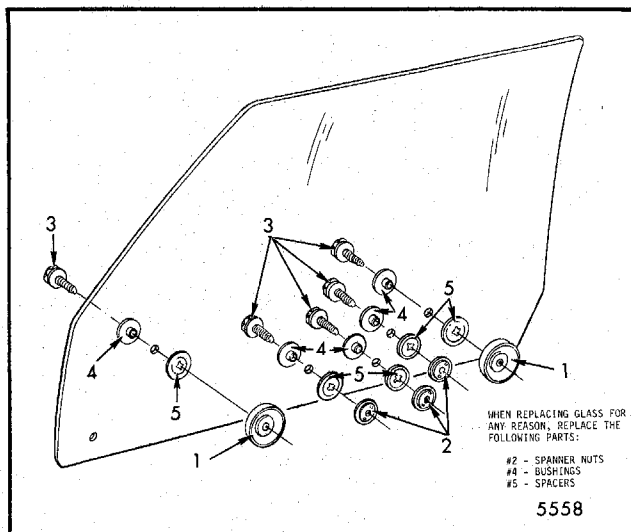
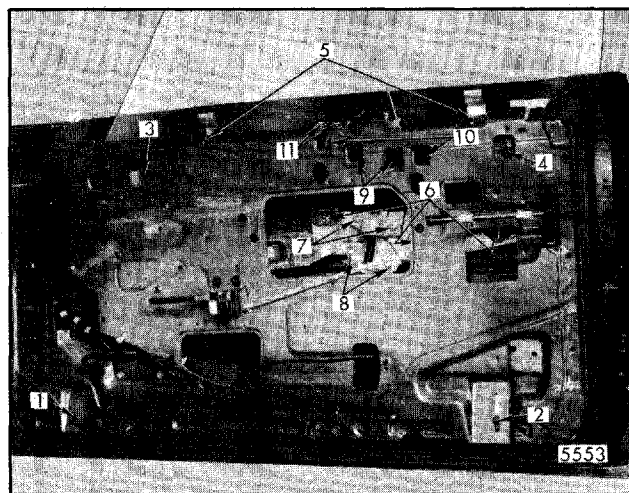
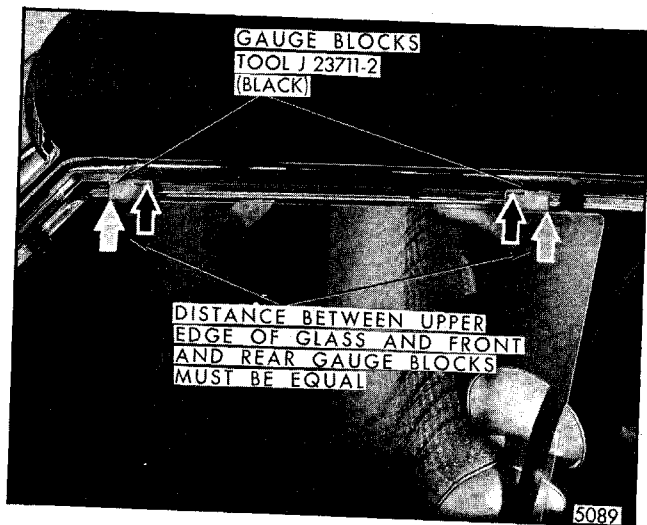
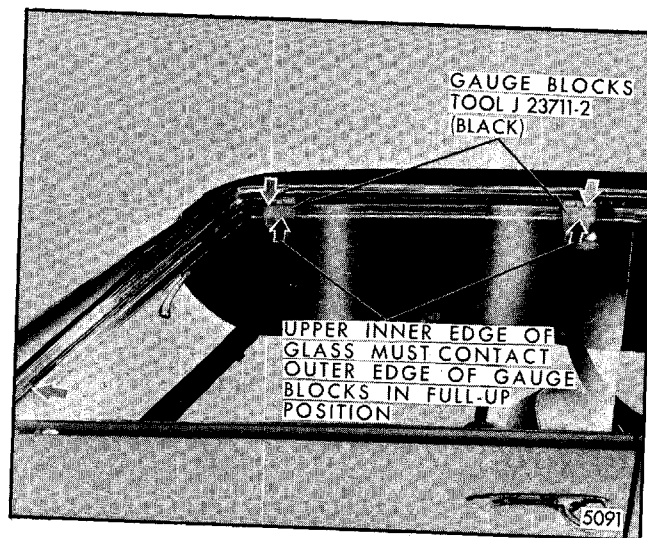

Fig. 5-116-Door Window Assembly - "E" Styles
Fig. 5-117-Door Window Hardware Attachments - "E" Styles
Fig. 5-120 Door Window-Rotated ("Cocked") Glass Alignment - "E" Styles
Fig. 5-122-Door Window - In and Out and Up-Travel Alignment - "E" Styles
Figure 5-116 is an exploded view of the window assembly and identifies the various components and their assembly sequence.
- WINDOW ROTATED** - Loosen front and rear up-travel stops ("3" and "4", Fig. 5-117) and lower sash upper guide attaching nuts ("7", Fig. 5-117). Adjust glass as required ("9", Fig. 5-117 for access holes) and tighten upper guide attaching nuts. Raise glass to desired height and adjust up-travel stops.
- WINDOW INBOARD OR OUTBOARD ALONG UPPER EDGE** - Remove guide pin stabilizer ("11", Fig. 5-117). Loosen lower sash lower guide screws ("8", Fig. 5-117) and front and rear belt trim support retainer screws ("5", Fig. 5-117) and position guide inboard or outboard as required and tighten screws. With glass in a full-up position, position trim support retainers. Reinstall guide pin stabilizer and adjust inboard to gain firm contact with guide support, then reinstall and tighten attaching screws. Make sure that the glass, when cycled, does not come in contact with the blow-out clip.
- WINDOW TOO HIGH OR LOW IN UP POSITION** - Adjust front and rear up-travel stops ("3" and "4", Fig. 5-117) as required.
- WINDOW TOO HIGH OR LOW IN DOWN POSITION** - Adjust front and rear down-travel stops ("1" and "2", Fig. 5-117) as required.
- WINDOW TOO FAR FORWARD OR REARWARD** - Loosen lower sash guide plate nuts ("6", Fig. 5-117) and reposition glass as necessary ("10", Fig. 5-117 for access hole).
6. **WINDOW BINDS** - Ease of window operation and window stability depend to a great extent on the adjustment of the belt trim support retainers ("5", Fig. 5-117) and the guide pin stabilizer ("11", Fig. 5-117). Contact should be sufficient to stabilize glass but not restrict window operation. Adjust guide pin stabilizer after adjusting trim retainers.
4. Working from inside body, with door in the closed position remove front door guide pin stabilizer ("11", Fig. 5-117). Loosen front and rear up-travel stops ("3" and "4", Fig. 5-117) and belt trim support retainers ("5" Fig. 5-117). Install suction cups on interior glass surface to aid glass adjustment.
5. With glass in partially-down position loosen rear stationary up-travel stop on glass ("1", Fig. 5-116). Then raise door window assembly to approximately 1" from the full-up position. If distance (space) between the upper edge of glass and the front and rear gauge blocks is equal (as shown in Fig. 5-120), proceed with step 6; otherwise, loosen lower sash upper guide attaching nuts ("7", Fig. 5-117) through access holes ("9", Fig. 5-117) and adjust glass as necessary.
aft adjustment on lower sash guide plate ("6", Fig. 5-117) through access holes ("10", Fig. 5-117) and move glass forward or rearward until the edge of glass contacts all three gauge blocks in the full-up position.
7. Completely loosen lower sash lower guide ("8", Fig. 5-117). Apply firm outboard pressure against upper end of front guide to remove slack in system and to hold upper inner edge of glass inboard against the outer edge of the gauge blocks as shown in Figure 5-122. Then tighten lower sash lower guide attaching screws.
8. With glass in full-up position against upper gauge blocks, tighten up-travel stops ("3" and "4", Fig. 5-117) and adjust belt trim support retainers ("5", Fig. 5-117). Reinstall front door guide pin stabilizer. Adjust pin inboard to gain firm contact with guide support and tighten attaching screws.
9. Lower window and remove gauge blocks. Tighten rear stationary up-travel stop on glass ("1", Fig. 5-116) and reinstall and seal weatherstrip as previously described. Make sure that when the glass is cycled, it does not contact the blow-out clip.
2. Remove front and rear up-travel stops ("3" and "4", Fig. 5-117), belt trim support retainers ("5", Fig. 5-117) and window guide pin stabilizer ("11", Fig. 5-117).
3. Remove lower sash guide plate assembly to glass attaching nuts ("6", Fig. 5-117). Tilt upper edge of glass inboard to disengage glass from guide plate, then remove the window from the door by lifting straight up.